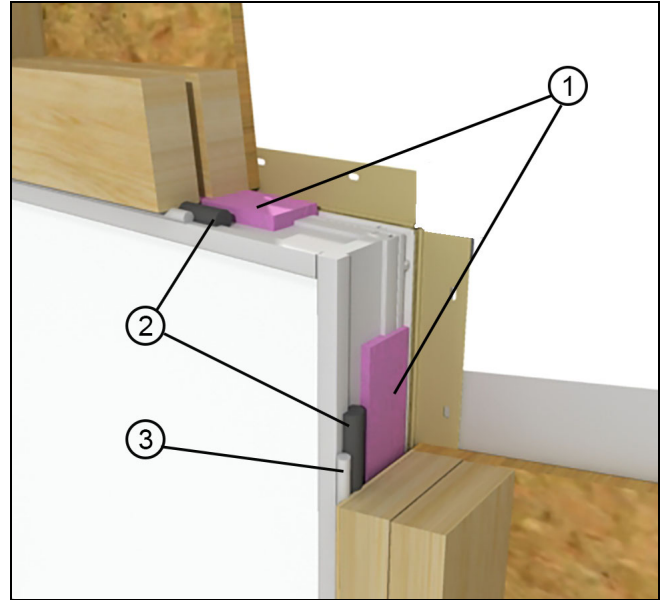

Figure 26
11. Integrate the unit with the interior air barrier of the structure by inserting backer rod into the RO and applying a continuous bead of sealant around the interior perimeter of the unit. See Figure 26.